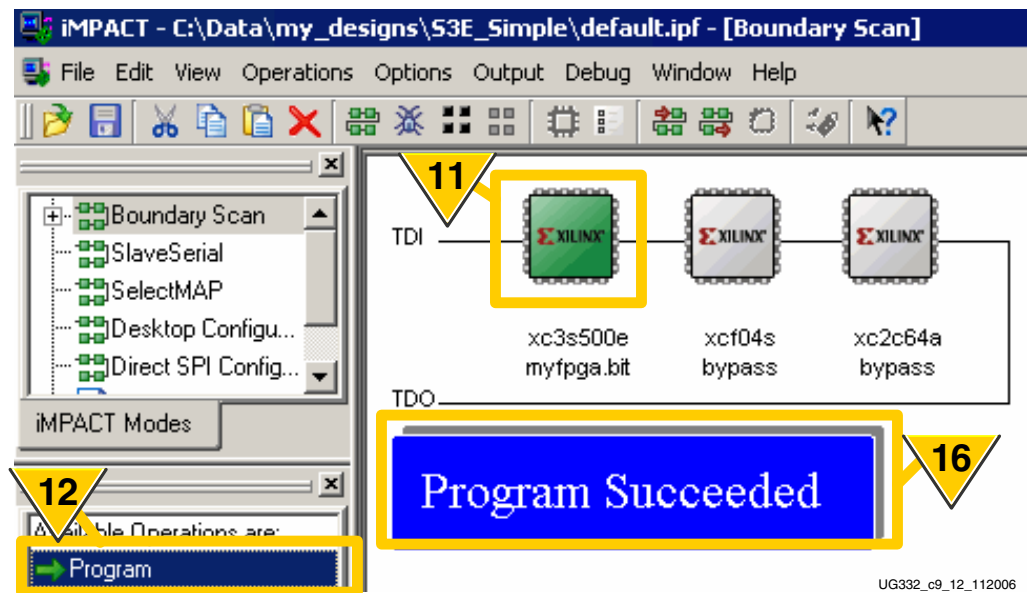

Figure 9-14: Double-Click Program to Configure FPGA via JTAG
- As shown in Figure 9-14, the iMPACT software updates the display, showing the files assigned to each device in the JTAG chain. In this example, the XCF04S Platform Flash and XC2C64A CPLD are “bypassed” and are not programmed. Click the FPGA to highlight it on the display.
16. The iMPACT software indicates when programming is complete, as shown in Figure 9-14. The iMPACT software also forces the FPGA to reconfigure on the board. The FPGA is downloaded with the specified FPGA bitstream.